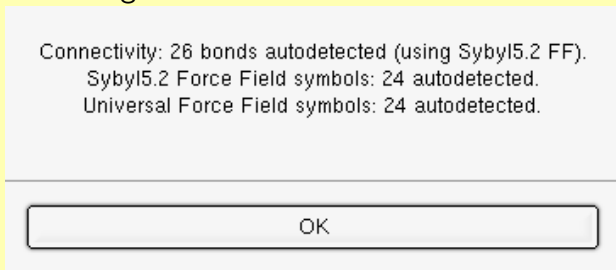

Figure 4.66: Import info dialog - geometry imported without an existing .pqb file.
**Note:** If a corresponding .pqb is not found in the same directory as the file to be imported, i.e., you are importing raw structural data, then PQSMol will attempt to derive forcefield data using an internal algorithm. The import info dialog in this case would look like the one in Figure 4.66.